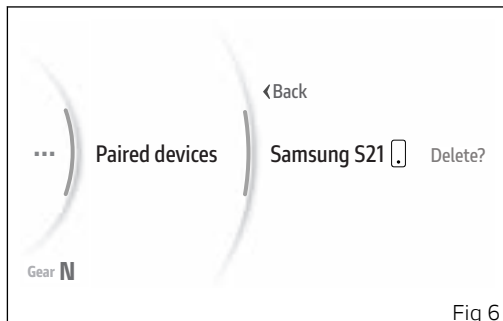

Fig 6
The message "Delete?" is shown on the right, (Fig 6) press ENTER (3) to delete the selected device from the list: the message "Wait..." is displayed for a few seconds and then the list of paired devices is updated.